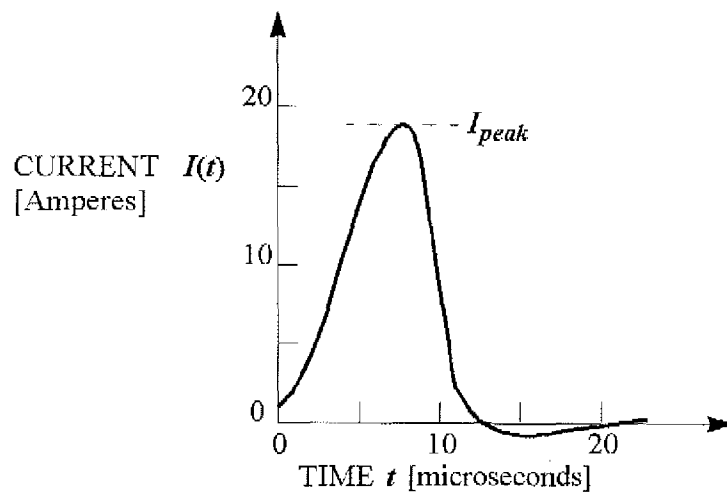

Fig 1 - Output current  $I(t)$  of ADVANCED TASER M26.
(2) **Current Pulses:** When activated ("fired") the ADVANCED TASER® M26 produces a sequence of approximately half-sinewave current pulses  $I(t)$  [Amperes], each having a peak amplitude of  $I_{peak}$  of about 18 Amperes, and a duration of of about 11 microseconds, see Fig. 1.